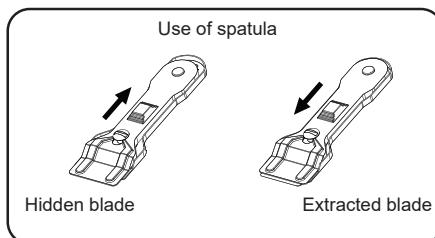

Fig. 2
**!** Once you are done with the spatula, retract the blade and lock it. (See Fig. 2)